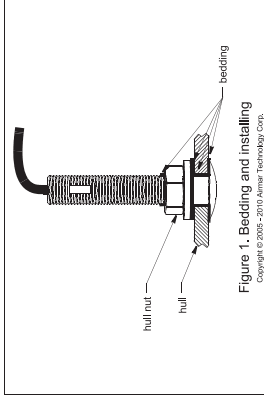

Figure 1. Bedding and installing
- Remove the hull nut (see Figure 1).
- Push the sensor into the mounting hole using a twisting motion to squeeze out excess marine sealant (see Figure 1).